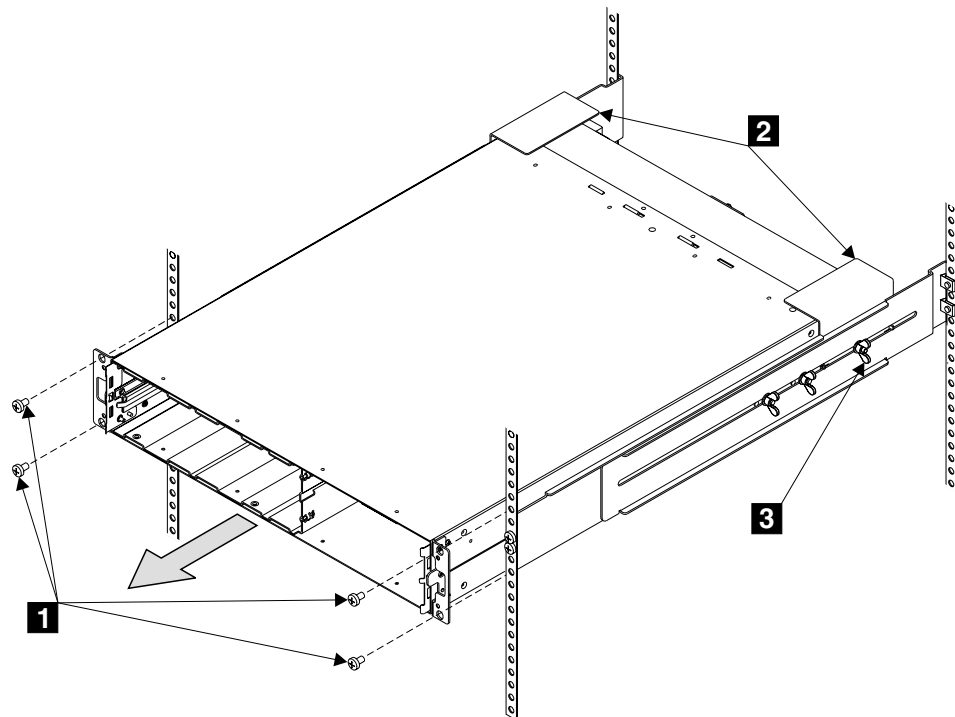

Figure 98. Removing the uninterruptible power supply
5. Refer to Figure 98. At the front of the uninterruptible power supply, unscrew the mounting screws **1**